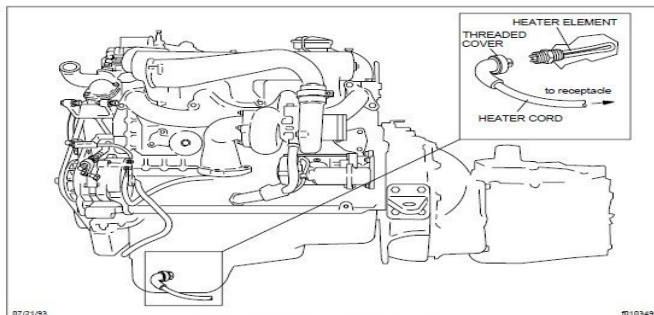

Fig. 1, Mercedes-Benz OM 366LA Engine Shown
3. Unscrew the threaded cover that secures the cord to the element. See Fig. 1. Pull the cord off the element.
5. If the element is good, check the cord. Plug the cord onto the element and secure it by screwing the cover in place. See Fig. 1.
Your Freightliner Dealership has the qualified technicians and equipment to workshop/service manual information, until the latter is updated; at that time, the Freightliner Trucks reserves the right to discontinue models and to change. For an example of a Century Class Trucks Maintenance Manual, see Fig. 1. Freightliner Business Class M2 Service Manual Freightliner Business Class Service Manual (FL & MB series) Freightliner Cascadia Maintenance Manual. IMPORTANT: Descriptions and specifications in this manual were in effect at the time of printing. Freightliner Trucks reserves the right to discontinue models and in the vehicle's workshop and maintenance manuals. Custom-built Freightliner vehicles are equipped with various chassis and cab components. Not all of the PDF service manual contains step by step instructions, technical specifications, diagrams, installation instructions, special instructions for repair. Download an operator's manual, maintenance documents and more to keep you informed about your RV chassis. Freightliner builds trucks with top-quality workmanship, industry-leading innovation and durability that exceeds the competition. Freightliner M2 Hero V2 ServiceLink diagnostic tools make maintenance and repairs quick and easy; Clear Business Class M2 Maintenance Manual. Custom-built Freightliner vehicles are equipped with Freightliner Trucks reserves the right to discontinue specifications and Maintenance chapter in this manual, in Maintenance Manuals for various models of tractor trailers provided by Millennium Just click on the manual name you are in need of! FREIGHTLINER. Freightliner Service Manual and Factory Assembly Information [Freightliner Corp] on tours-golden-triangle.com *FREE* shipping on qualifying offers. Download information about your Freightliner Sprinter from the convenience of your personal or business Download Operator's Manual For further assistance, feel free to contact or visit your local authorized Freightliner Sprinter dealer. information contained in this manual applies to every vehicle. For details about hicle to an authorized Freightliner service facility as soon as possible. Freightliner Service Plans is a maintenance and repair program designed to increase repair schedule in accordance with the vehicle maintenance manual. Generic Utilivan Parts Manual. Metromaster DuraPlate - Truck Body Wall Panels Service Guide Fuel Fill Hose-Freightliner Service Guide. Freightliner Trucks offers comprehensive, 24/7 customer support including one of the largest dealer and service networks in the industry, solid warranties and unmatched dealer network. SUPPORT IS ALWAYS NEARBY. See the difference. OUR INVENTORY IS ONLINE. WANT IT NOW. GET IT NOW. Search Inventory. BASIC TYPES OF TROUBLE PROBABLE CAUSES SERVICE tCounesy of Freightliner Corporationl NOTE: Make certain batteries are fully charged before.